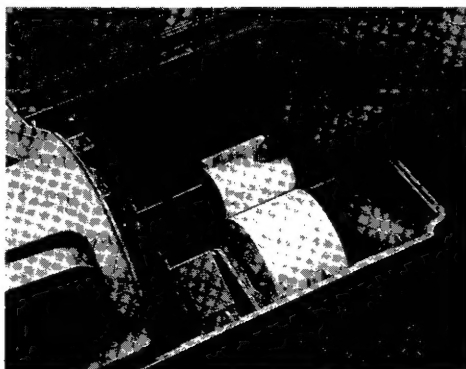
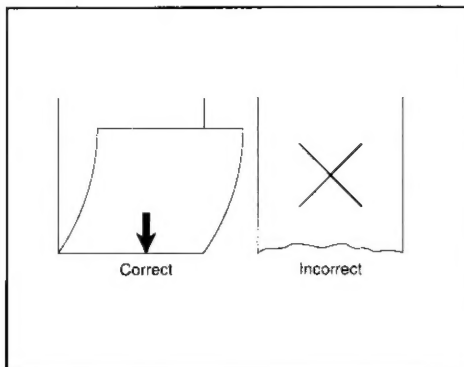
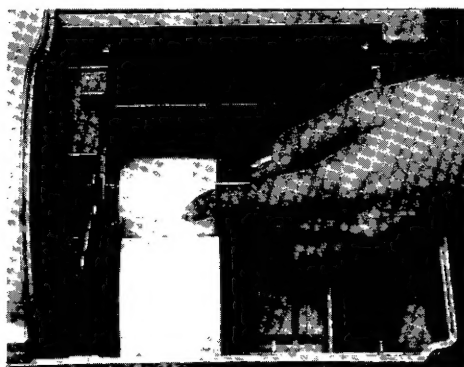

Fig 1-3.
Fig 1-4.
Fig 1-6.
2. Fold the end of the paper (Fig. 1-4) and insert the paper into the paper inlet (Fig. 1-3), and press the Receipt Feed key until approximately 20cm of paper are fed from the outlet.
2. Fold the end of the paper (Fig. 1-4) and insert the paper into the paper inlet (Fig. 1-6), and press the Journal Feed key until approximately 20cm of paper are fed from the outlet.